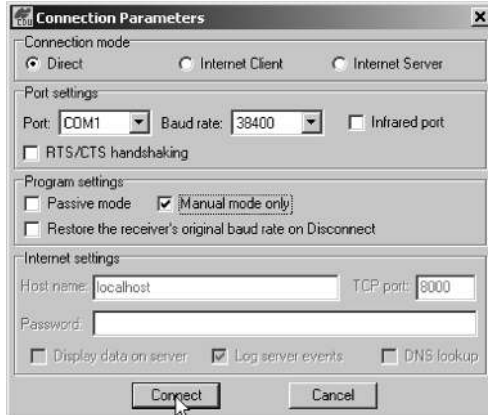

Figure 2-30. Connection Parameters – Manual Mode Only
16. On the Connection Parameters screen, select a baud rate of 38400 and enable the Manual mode only check box (Figure 2-30), then click **Connect**.